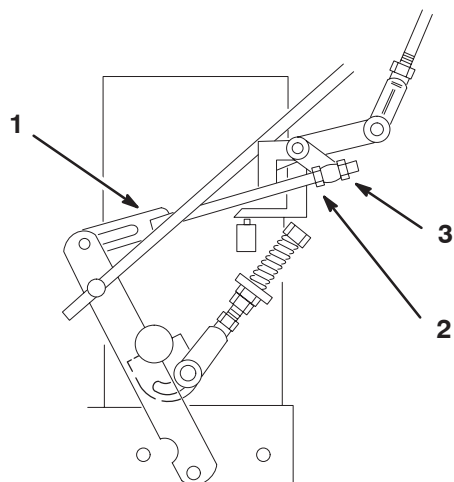

Figure 51
8. Loosen the front nut on left hydro control linkage as shown in figure 51.
9. Turn the left rear adjusting nut counter-clockwise until wheel rotates forward (Fig. 51).
10. Turn the rear adjusting nut clockwise 1/4 of a turn at a time. Then move the speed control lever forward and back to neutral. Repeat this until left wheel stops rotating forward (Fig. 51).